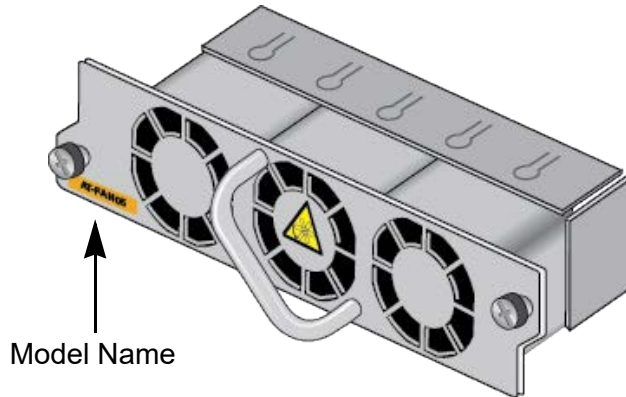

Figure 17. AT-FAN05 and AT-FAN05R Fan Modules
Refer to Figure 17.
1. The model name is on the front panel of the fan module. See Figure 17.